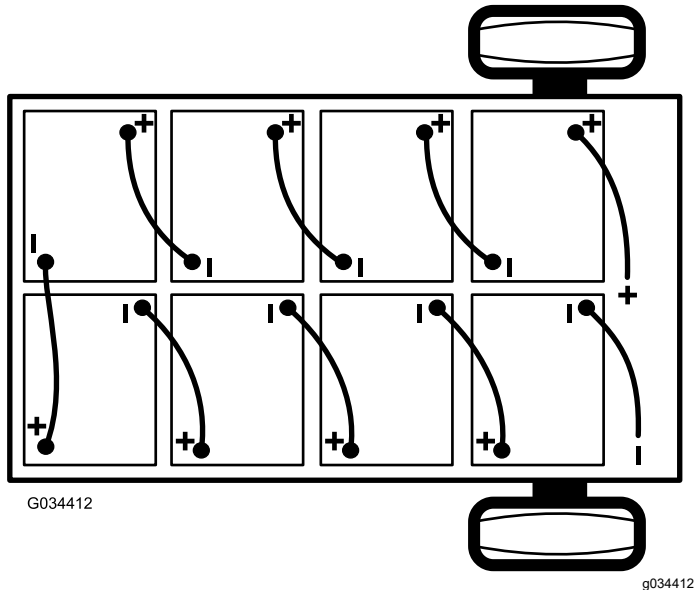

Figure 41
2. Disconnect the main negative-battery cable (black) that connects the bank of batteries to the ground point of the machine (Figure 41).
2. Connect the main positive-battery cable (red) between the bank of batteries and the machine (Figure 41).
3. Connect the main negative-battery cable (black) between the bank of batteries and the machine (Figure 41).
**Note:** Pay attention to the battery polarity when installing the new batteries (Figure 41).
6. Connect the batteries together as shown in Figure 41 with the battery-interconnect cables that you removed in step 1.